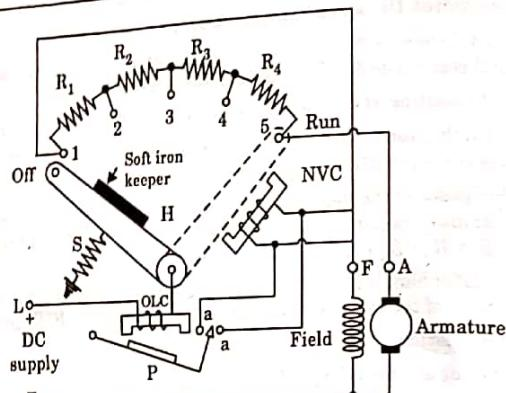

Fig. 3.4.1. Three-point DC shunt motor starter.
1. Fig. 3.4.1 shows a three-point DC shunt motor starter. It consists of a graded resistance  $R$  to limit the starting current.